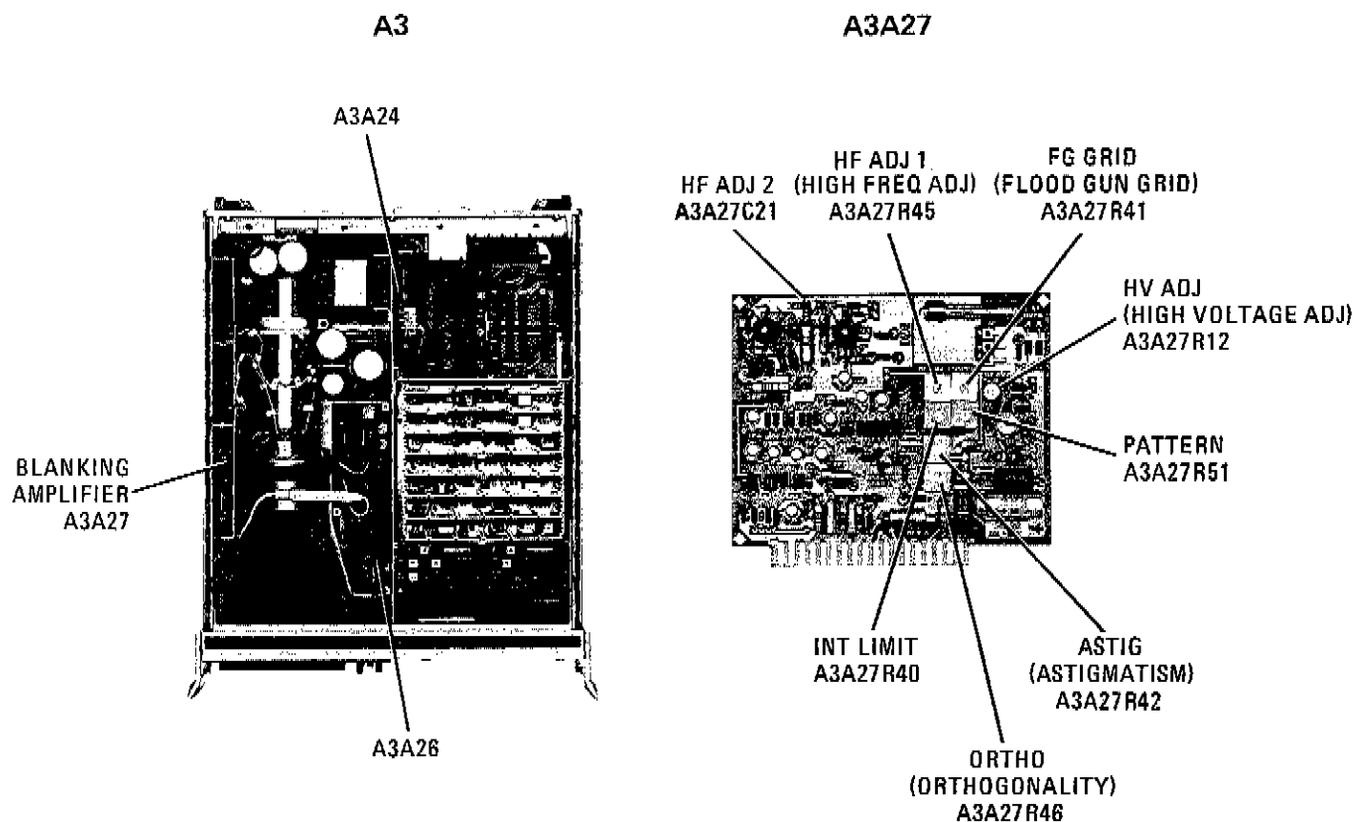

Figure A5-45. A3A27 Blanking Amplifier Adjustment Locations
- Put A3A27 Blanking Amplifier on extender and connect DVM to A3A24TP1 (See Figure A5-45).
- h. Adjust HV ADJ A3A27R12 (Figure A5-45) for a reading of -40 times value calculated in step f.